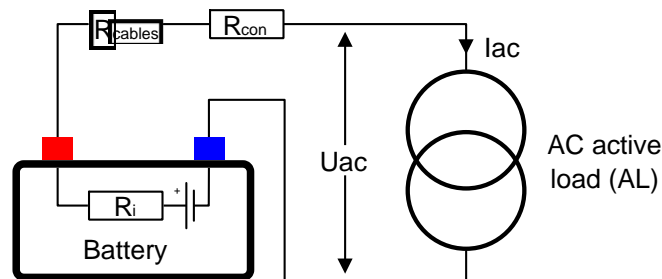

Figure 4. Internal resistance measurement
The battery internal resistance (R_i) is measured by draining a defined AC current through an active load (AL) from the battery and measuring the AC voltage drop across the load terminals. The principle is represented in Figure 4.